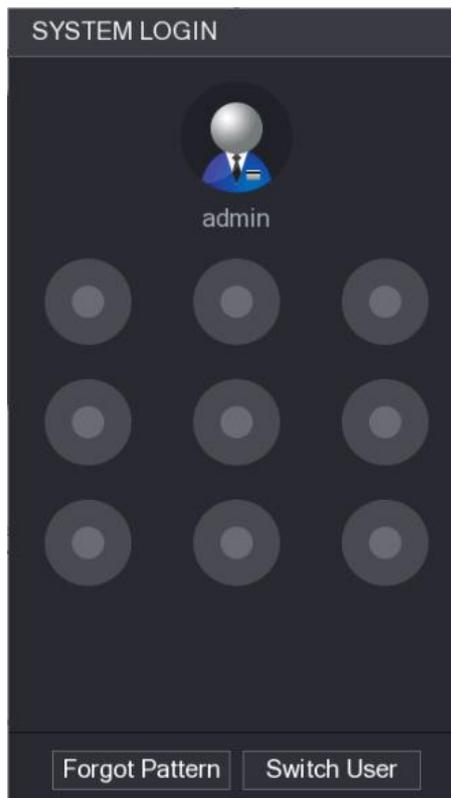
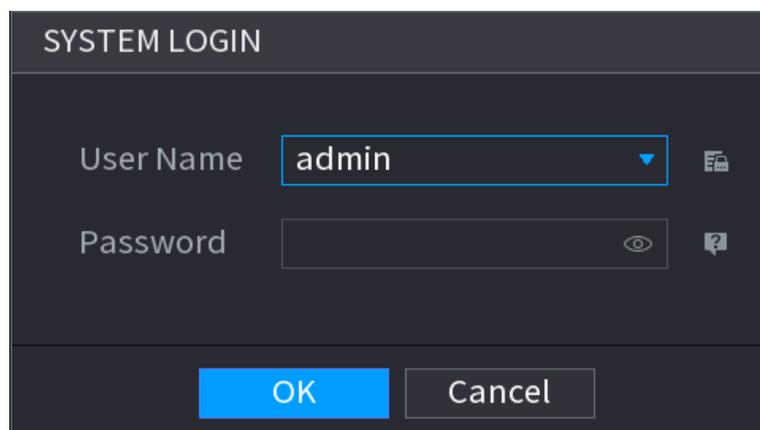

Figure 5-8
Figure 5-9
- If you have configured unlock pattern, the unlock pattern login interface is displayed. See Figure 5-8. Click **Forgot Pattern**, the password login interface is displayed. See Figure 5-9.
See Figure 5-9. Click  to display the password with plaintext.